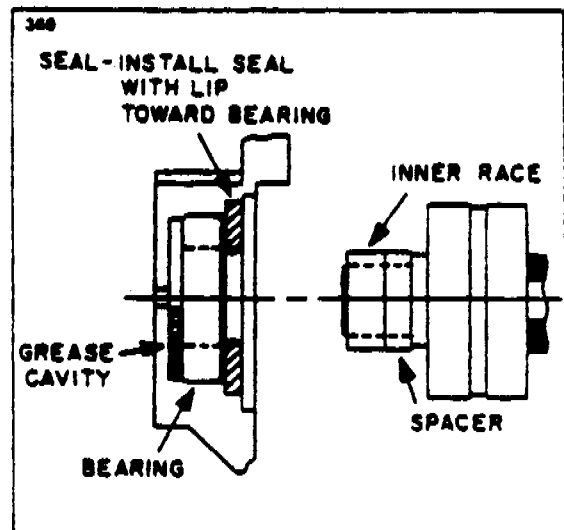

FIGURE 9-27l. SLIP RING END BEARING ASSEMBLY
- e. Install the slip ring end bearing and oil seal. Make sure the lip of the oil seal is toward the bearing. Correct assembly of bearing, seal, inner race and spacer is shown in Figure 9-27l.